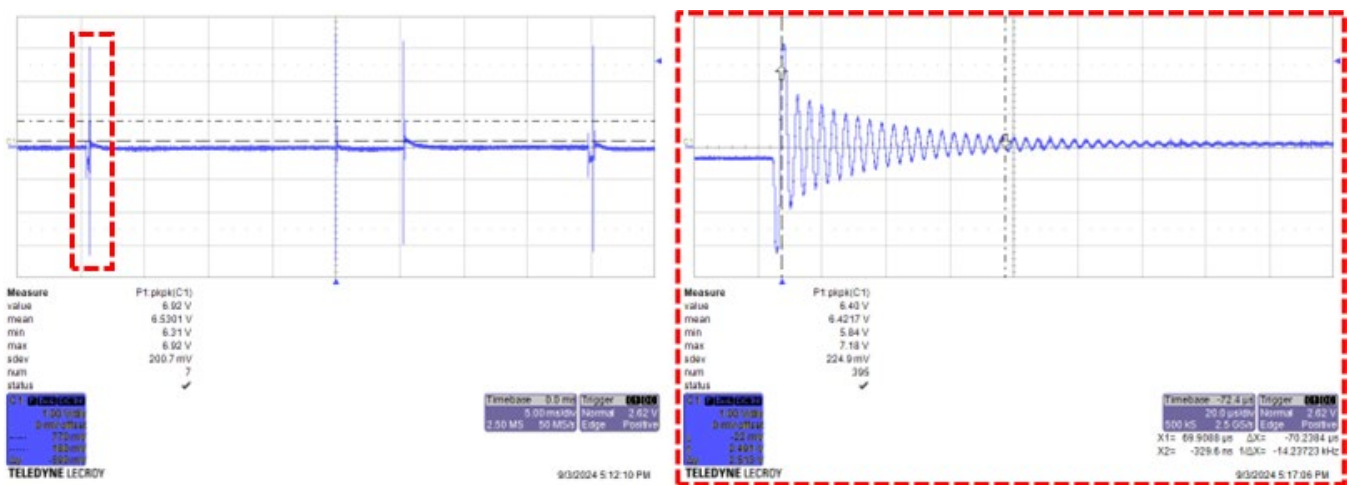

Figure 6. Signal Artifact of High Voltage Generation
During the experiment, it became clear that as the test sample was moved closer to the ionizer, additional frequencies unrelated to ionization were detected. These frequencies (characterized by long wavelengths) pose no risk but are worth noting. These “other frequencies” arise from the High Voltage (HV) generation inside the ionizer, which is necessary for ion production. The HV generation (illustrated in Figure 6, Signal Artifact of High Voltage Generation) typically involves either a fly-back or resonance circuit powering a step-up transformer. This creates an electric field that becomes noticeable when the device is within approximately 3 inches (or less) of the ionizer. Any ionizer, whether DC or AC, that uses high voltage generation will produce this effect.